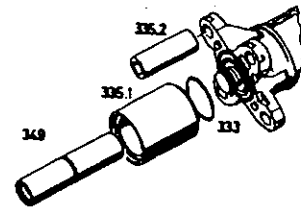

Fig.2
Remove pipes (335.1 and 335.2). Dismantle O-ring (333) (Fig.2).